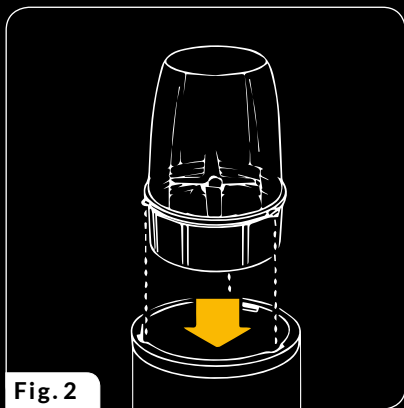
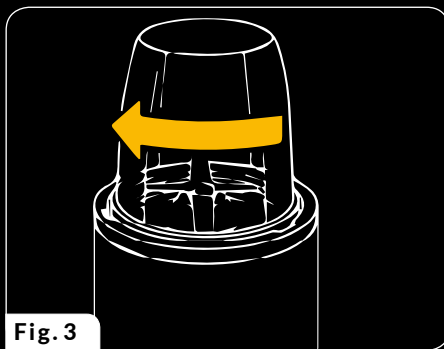

Fig. 2
Fig. 3
6. Turn the bottle sealed with a blade rotor ring upside down and mount the blade rotor ring in the seat ② (Fig. 2) inside the Nutri Blender housing. The three bosses around the bottle, ④ or ⑤, must engage the respective three recesses in the Nutri Blender housing. Next, press down the bottle – the Nutri Blender will start processing – and gently turn the bottle clockwise to stop (Fig. 3).
7. Operate the Nutri Blender by holding the housing ① with one hand and the bottle with the processed product with the other hand. Do not exceed the maximum operating time.